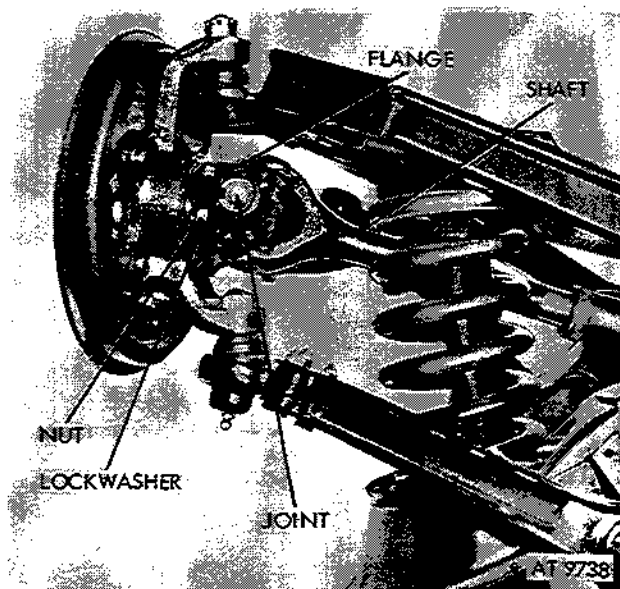

Figure 2-312. Disconnect universal joint at drive flange.
- (1) Remove wheel spindle (para 2-138).
- (2) Remove four nuts and lockwashers and disconnect universal joint at drive flange (fig. 2-312).